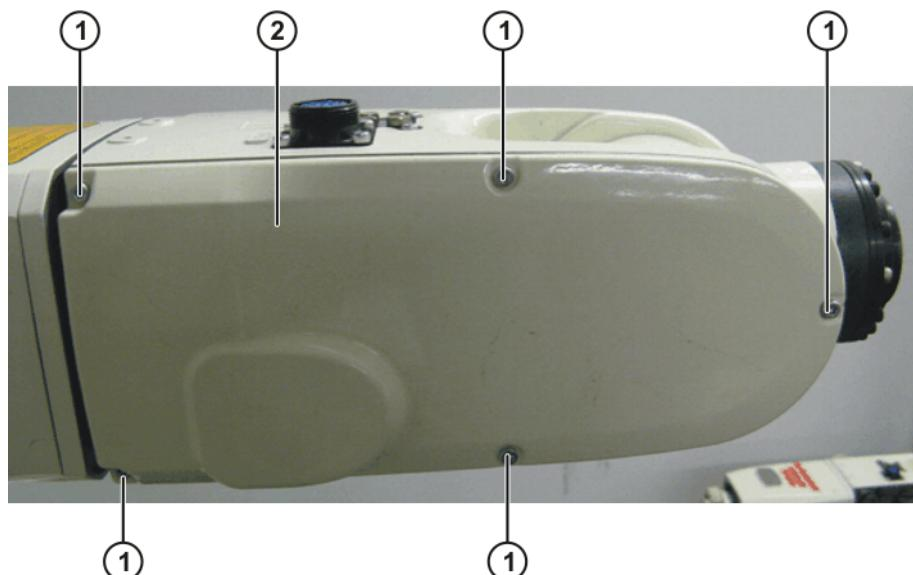

Fig. 10-3: Cover A5
1. Remove 5 screws (>>> Fig. 10-3) from the arm.
10. Mount the cover (>>> Fig. 10-3).